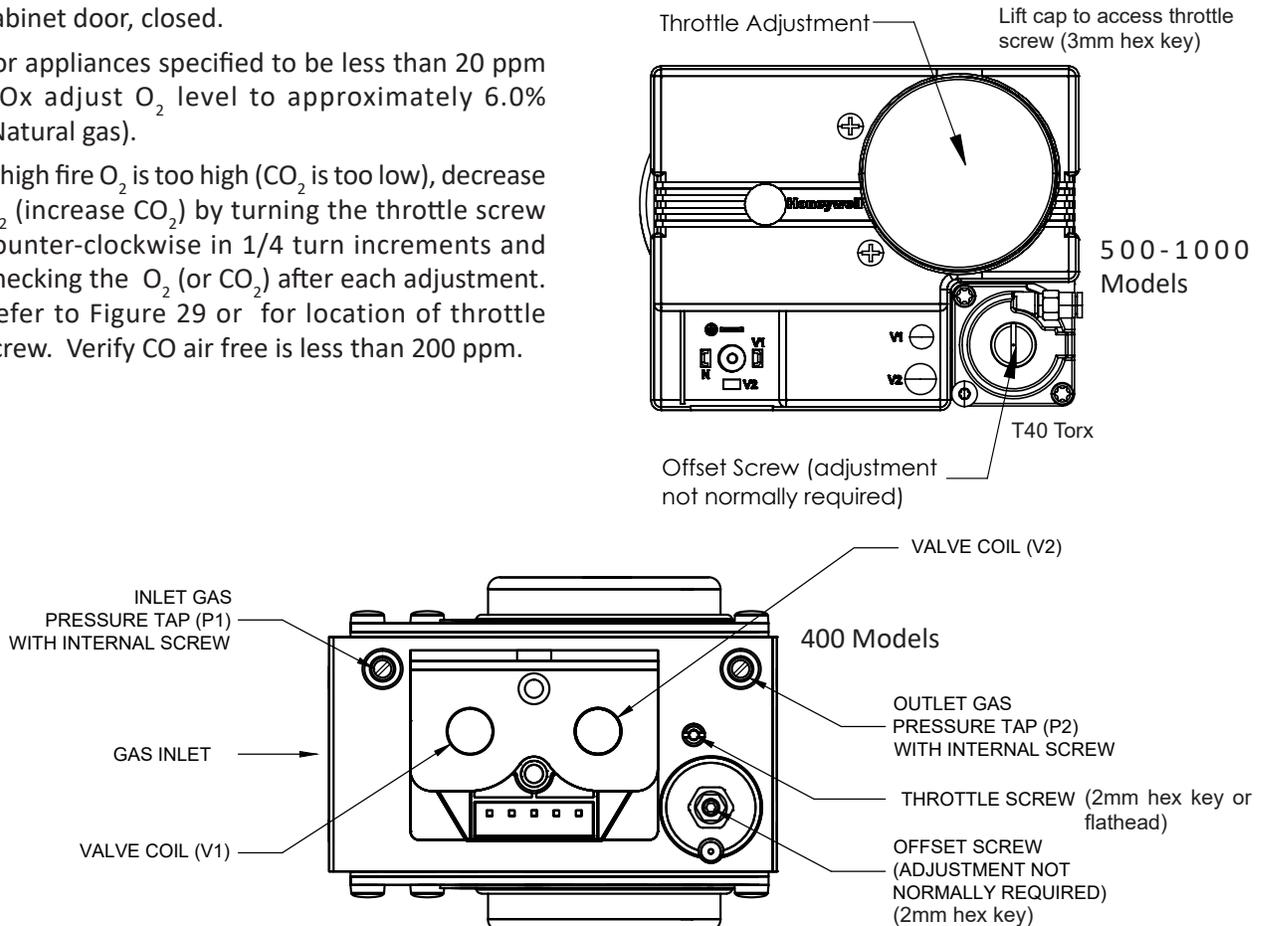

Figure 29: Gas Valve Adjustment
- d. If high fire O_2 is too high (CO_2 is too low), decrease O_2 (increase CO_2) by turning the throttle screw counter-clockwise in 1/4 turn increments and checking the O_2 (or CO_2) after each adjustment. Refer to Figure 29 or for location of throttle screw. Verify CO air free is less than 200 ppm.
- e. If high fire O_2 is too low (CO_2 is too high), increase O_2 (decrease CO_2) by turning the throttle screw clockwise in 1/4 turn increments and checking the O_2 (or CO_2) after each adjustment. Refer to Figure 29 for location of throttle screw. Verify CO air free is less than 200 ppm.